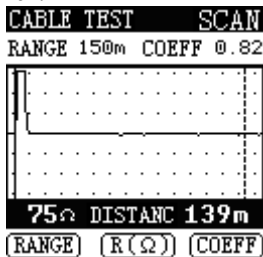
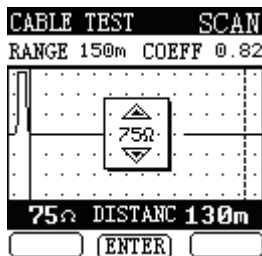
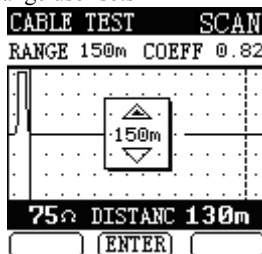

Figure 1-1
Figure 2-1
Figure 2-6
Power on, emission pulse locus and parameter status will display on the LCD (As shown in Figure1-1), the parameter is using the display last power off, the default range is 150m, impedance is 75 Ω as power on.
Power on, enter the main interface (As shown in Figure1-1, 1-2), and press the  keys to adjust the contrast of LCD.
Firstly, connects measuring probe and cable for testing, then turns on, presses the soft key F2 showing in Figure1-1, pops the impedance setup interface (As shown in Figure2-1), presses $\uparrow\downarrow$ to select the corresponding value with cable, F2 to confirm.
1. In Figure1-1, press soft key F1, pop the measuring range setup interface (As show in Figure 2-6), press   or   to select measuring range you need. The measuring rang divided into: 10m、150m、450m、900m、1200m、1600m. Press F2 key, thus system will scan and measure in the measuring range user sets